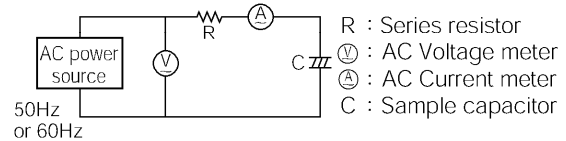

Fig. 2-5
(1)In the circuit shown in Fig.2-5 a series resistance "R" is selected from Table 2-1 in accordance with the rated capacitance of the capacitor to be tested.